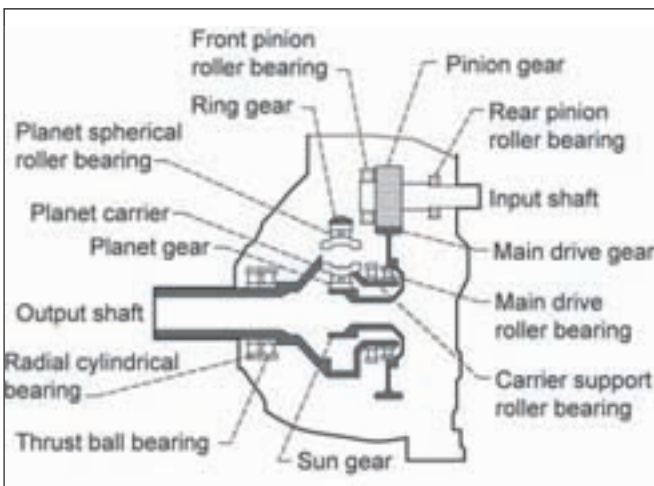

Figure 3—Commercial turboprop gearbox.
**Predicted Life of a Turboprop Gearbox.** A commercial turboprop gearbox used for this analysis is shown in Figure 3. It consists of two stages with a single-mesh spur reduction followed by a 5-planet planetary gearbox comprising 11 rolling-element bearings and 9 spur gears (Ref. 28). The first stage consists of the input pinion gear meshing with the main drive gear. The second stage is provided by the fixed-ring planetary driven by a floating sun gear as input with a five-planet carrier as output. The input pinion speed is constant at 13,820 rpm, producing a carrier output speed of 1,021 rpm.